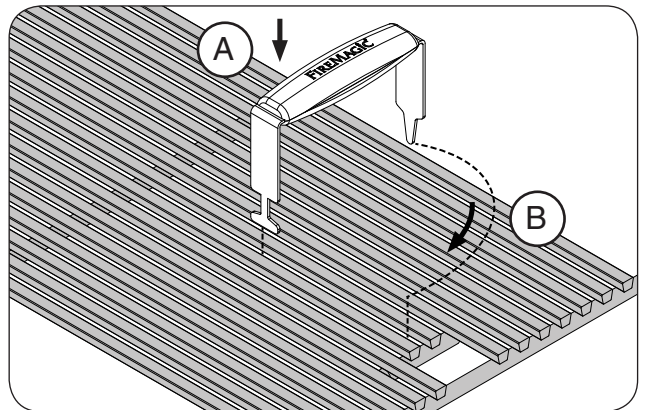
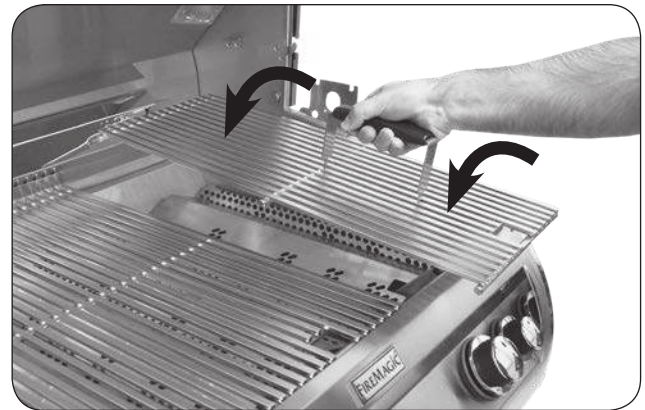

Fig. 21-2 Install cooking grids
Fig. 21-3 Install cooking grids
Place the flavor grids onto the front and rear flavor grid rests. Align the cutouts on the grids to the lighting tubes. See Fig. 21-2. **The short grids are designed to rest over the outer burners and the tall grid(s) over the inside burner(s).** The flavor grids allow heat from the burners to be evenly distributed throughout the cooking area. The tall side walls are designed to allow for maximum heat control and thermometer accuracy in each zone.
1. With the prongs facing downward, insert the notched-end of the lifter between two grid rods, then rotate, as shown in Fig. 21-2, A & B.
2. Insert the rear pointed-end of the lifter between the same two rods (Fig. 21-2, B) and carefully lift the cooking grid and place onto the front and rear grid rests of the grill (see Fig. 21-3). Repeat for all other cooking grids.